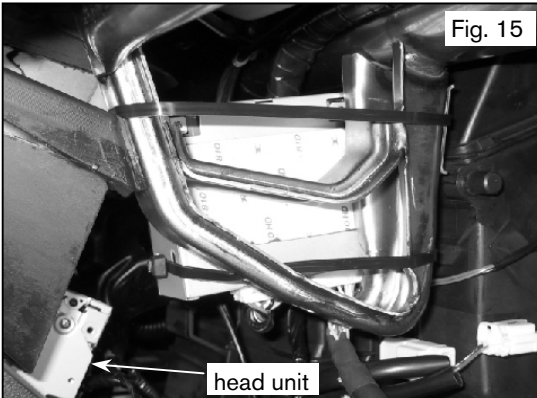

Fig. 15
(5) While holding module in place with your hand wrap the cable ties around metal framing.
(6) The upper cable tie should be wrapped on the outside of the metal frame and above any attached trim pieces. The lower cable tie should be wrapped on the outside of the frame towards the front of the vehicle, but routed through the small hole towards the rear. Fig. 15 & 16
(7) Thread cable ties through the head and tighten.
(8) The cables can now be inserted into their corresponding connectors.